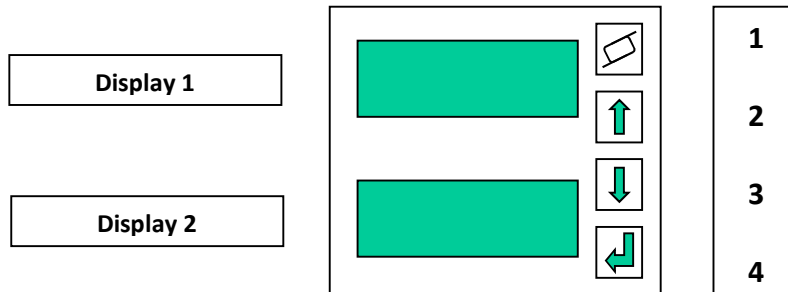

Fig. 1 :
9. Software version will be displayed in Display 1 and CVOB will be displayed in **Display 2 of the control panel. FIG 1 Page 18**
The processor parameters are entered from the Process Time Display Panel shown below in **Fig 1**
For ease of setting the use of numbers as shown Ref Fig 1
To access password press keys 1 and 4 simultaneously on the control panel to display: **Fig1**